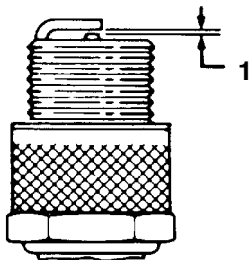

Figure 26
- Set the gap on the plug to 0.020 in. (0.50 mm) (Fig. 26).